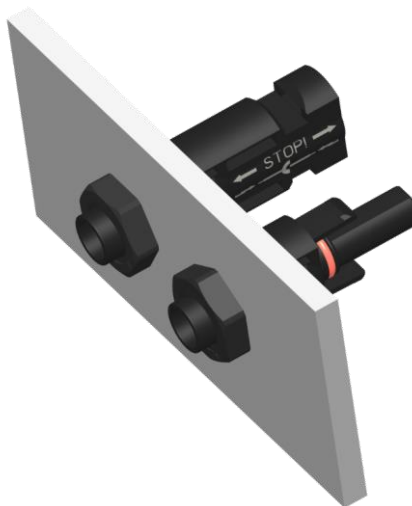

Figure 16
- ✧ 安装公/母面板连接器，用 2.0Nm 的扭矩锁紧螺母。(如图 16)
Position the male or female panel connector, tighten the nut by torque wrench with value of 2.0 N · m.(Fig.16)